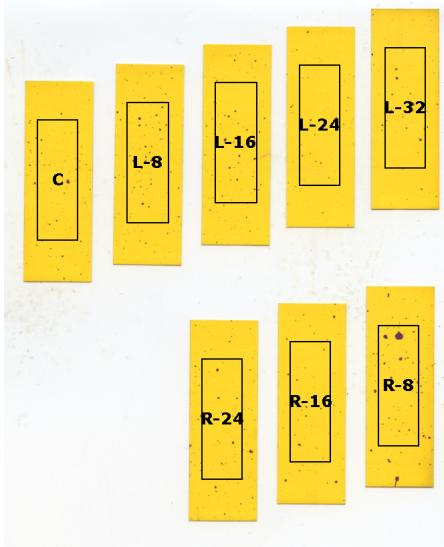

Figure 22: Result from Preview Scan
2. Next, click the *Preview Scan* button in the lower left corner. This will first check to see if a scanner is connected and prompt you to do so if one is not. A low resolution scan will then be done to locate cards and preview the areas which are to be used for analysis (Figure 22). The black box outlines represent boundaries for processing, outside which no data will be used. These boxes may be dragged for repositioning (i.e. to avoid defects such as fingerprints) and they may be resized by dragging corners or edges. See the *Settings* section for how to change automatic sizing of regions of interest (ROIs).